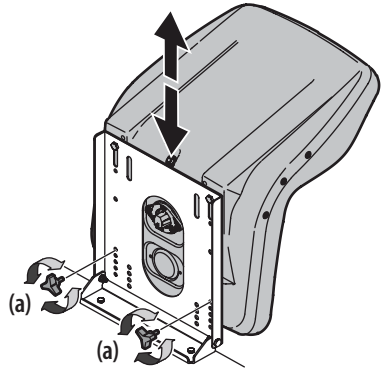

Figure 17
1. Remove the knobs (a). See Figure 17.
3. Replace the knobs into one of the four hole settings and tighten securely. See Figure 17.